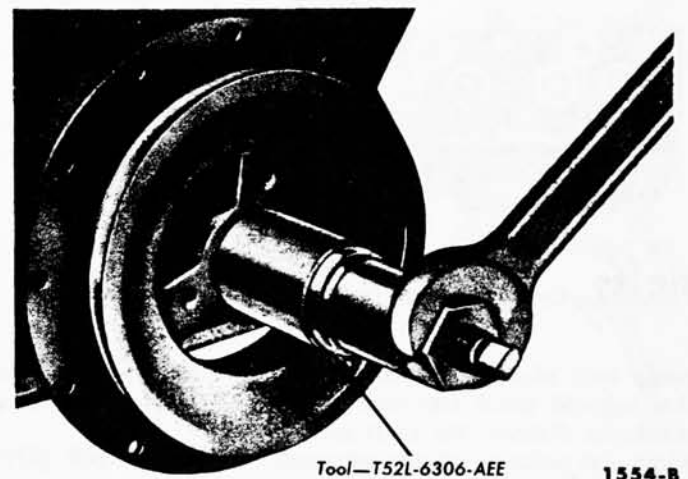

FIG. 49—Crankshaft Damper Installation
7. Line up the damper keyway with the key on the crankshaft, then install the damper on the crankshaft (Fig. 49).